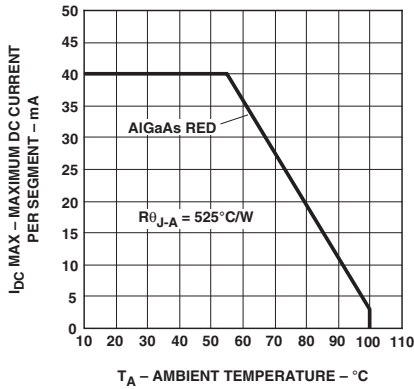

Figure 2. Maximum allowable DC current vs. ambient temperature.
1. See Figure 2 to establish pulsed conditions.